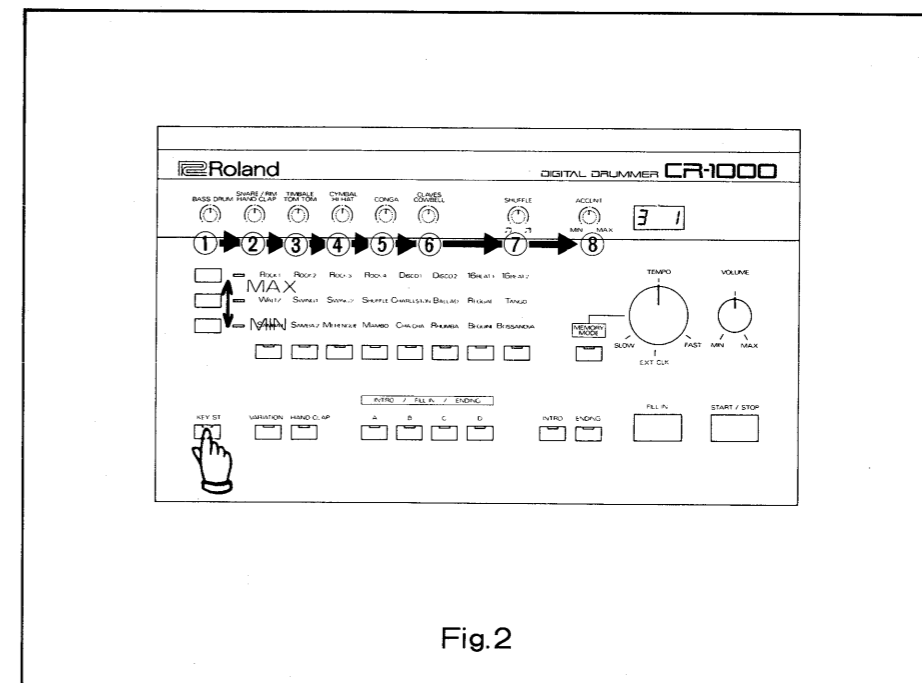

Fig.2
- 4) Repeat steps 2) and 3) for remaining knobs 2 to 8 shown in Fig. 2.